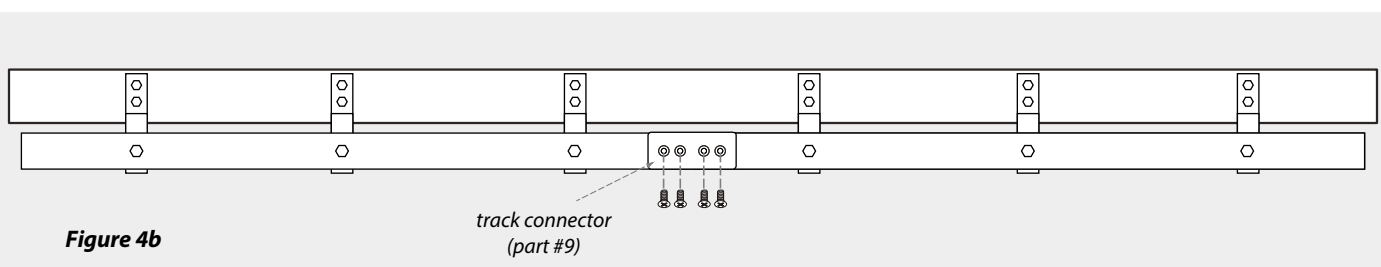

Figure 4b
7. Secure LH & RH tracks (parts #7 & #8) with track connector (part #9) as shown (figure 4b).